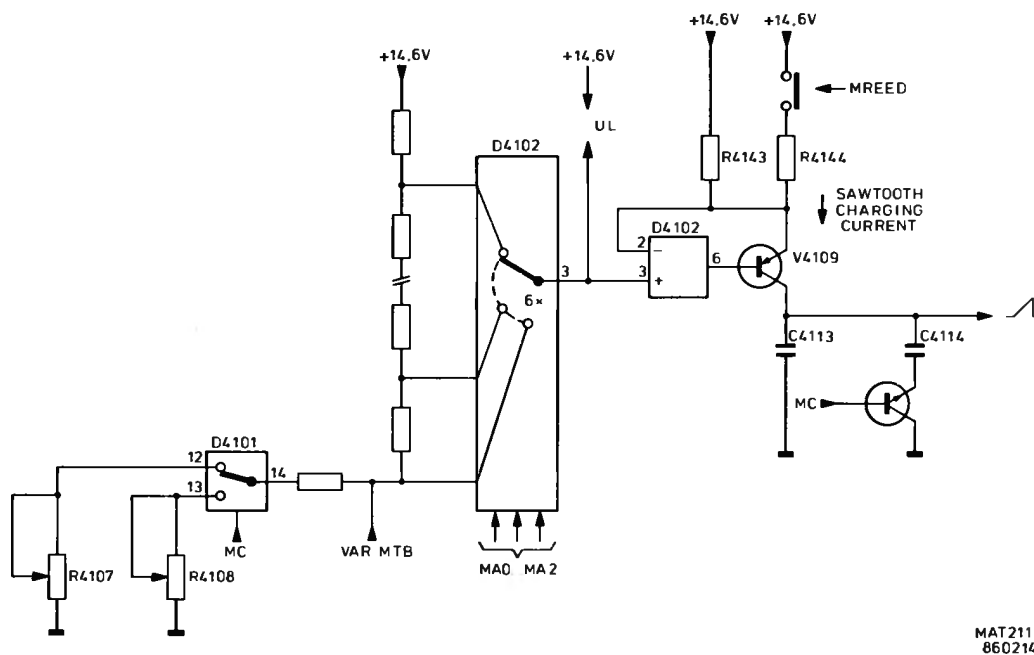

Figure 7.2 Simplified diagram of the time-base sweep generator
* TB sweep generator (see figure 7.2):